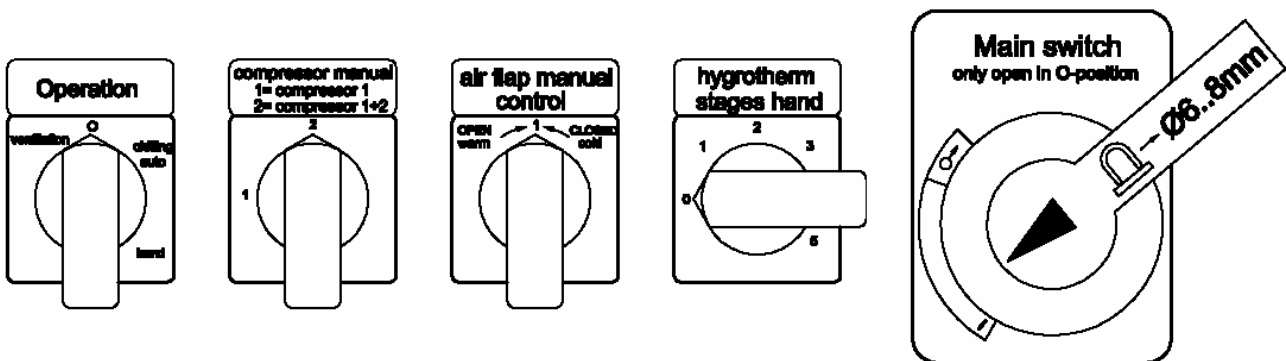

Fig. 7 Position of switches prior to commissioning
- Set all switches as shown on Fig. 7